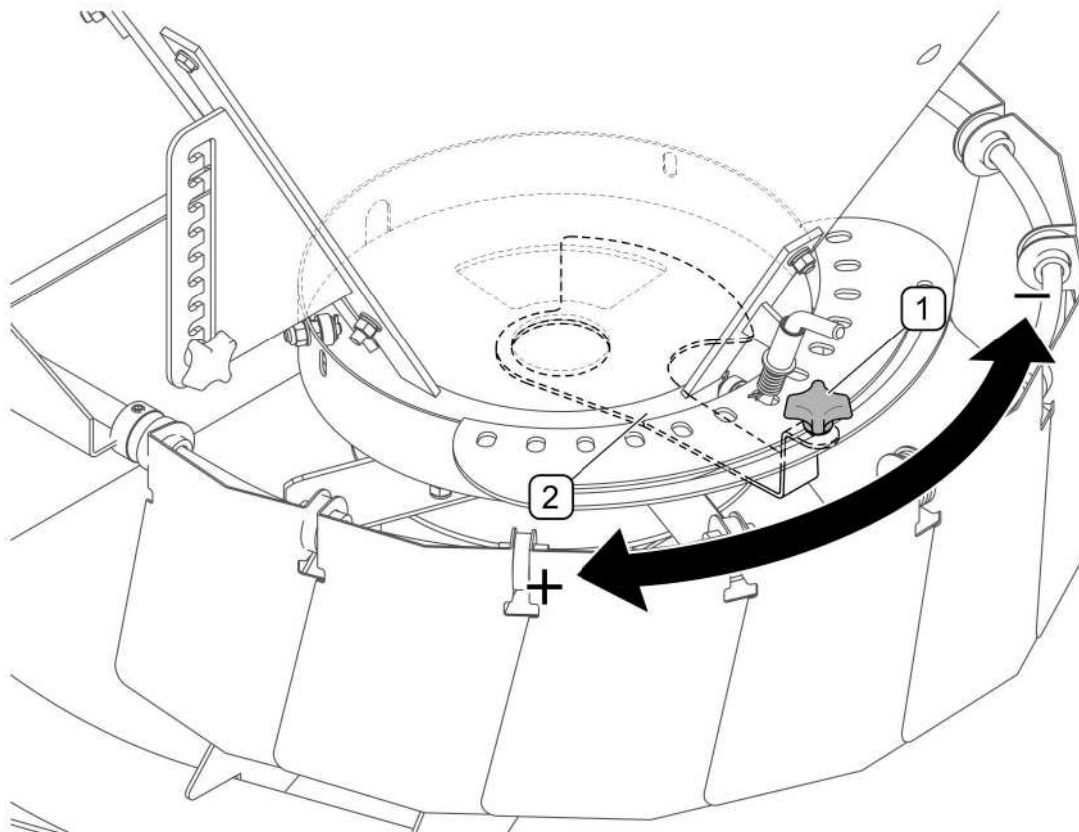

FIG. 4.5 Adjustment of spreading dose
(1) - lock knob; (2) - spreading dose adjusting lever
Spreading dose adjustment can be carried out by loosening knob (1) and proper shifting of lever (2). Shift lever (2) clockwise in order to enlarge the dosing hole in the tank (FIG. 4.5). When the lever is shifted to the right extreme position, the dosing hole is completely closed. When a required spreading dose is set, tighten knob (1) in order to lock the setting.